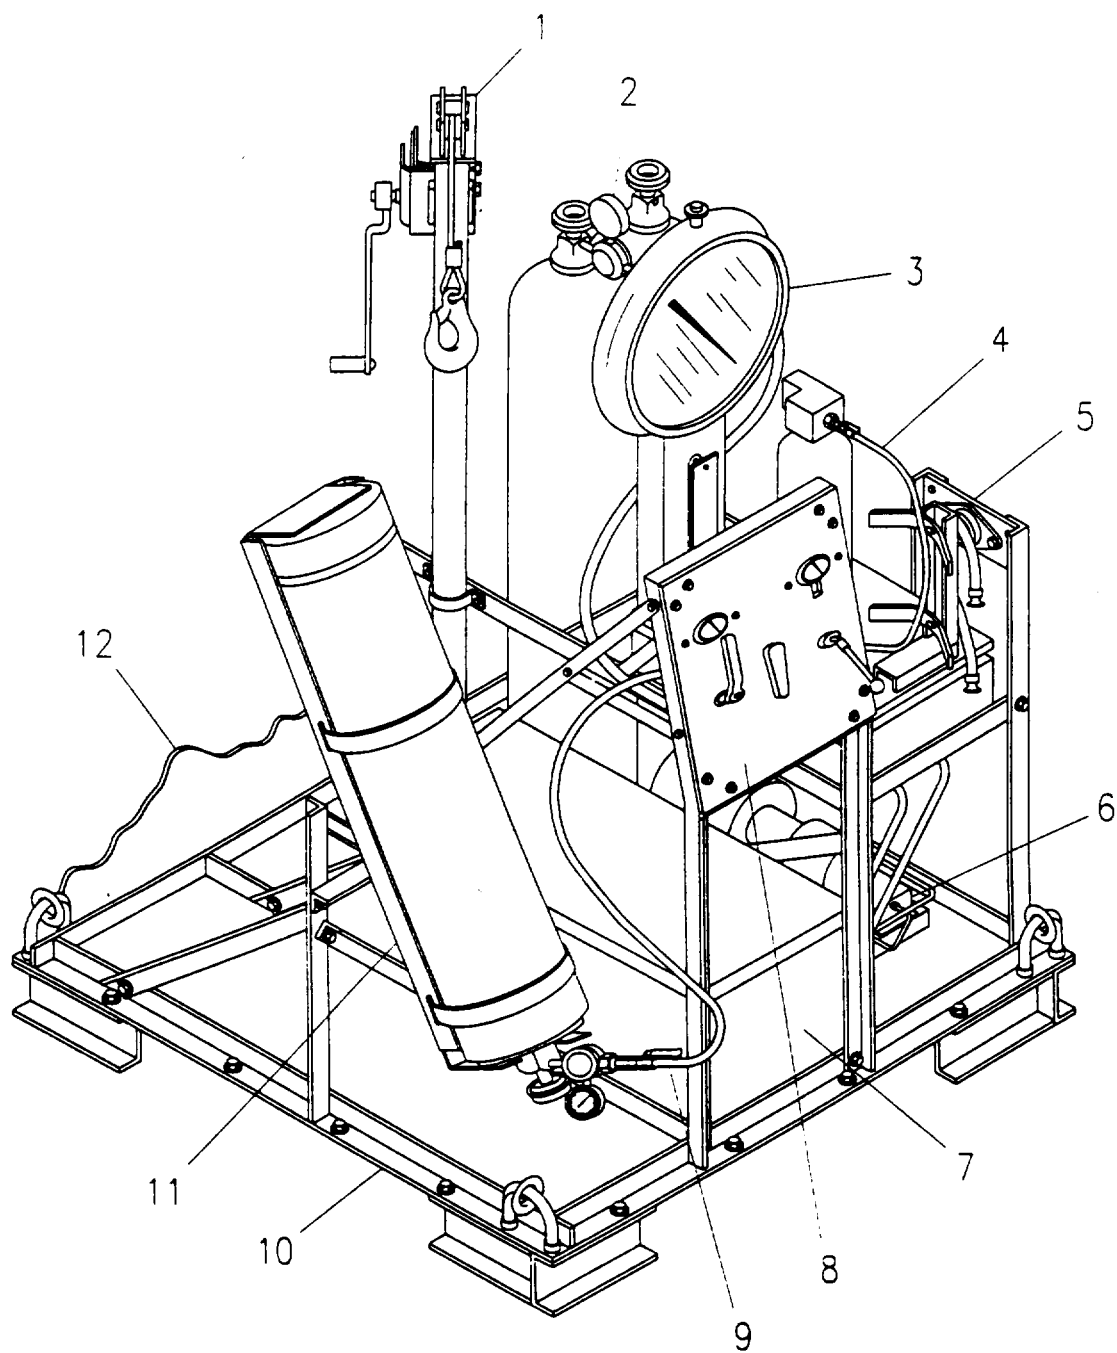

Figure 1-1. Recovery I Recharger Unit, Major Components
1-1.3 Purpose of Equipment. The Recovery / Recharger Unit (Figure 1-1) provides all necessary hardware to field recover residual Halon / nitrogen from 5 or 7 lb. (2.3 Kg or 3.2 Kg) capacity fire extinguishers and to recharge the same extinguisher when completely evacuated.
Major components of the recharger are illustrated in Figure 1-1 and described below. Reference numbers listed below are keyed to the appropriate assembly illustration in Figure 1-1.
The Halon cylinder is lifted and placed on the tilt rack assembly (11, figure 1-1) using the hoist winch assembly (1). The hoist winch assembly cable is attached to the D-rings of the cylinder lifting harness using the spring hook provided. The winch is then operated by turning a handle clockwise to lift the cylinder. The winch is provided with an automatic brake to hold the load and prevent the handle from freewheeling. The tilt rack assembly provides a balanced mounting surface for the Halon Cylinder to simplify inversion of the cylinder. The Halon cylinder is inverted so that Halon liquid, rather than vapor, is available for pumping to the fire extinguisher.
1-15.1 General. The Recovery / Recharger Unit as shown in Figure 1-1 may be used to remove Halon and nitrogen from an extinguisher cylinder by creating a minus psi reading at the cylinder valve and placing the extracted material in a recovery cylinder. Or it may be used to pump Halon into empty extinguisher cylinders by pumping Halon from a Halon cylinder and creating a positive pressure at the cylinder valve. All necessary valves, hoses, and gauges come as part of the Recovery / Recharger Unit. The Halon cylinder, nitrogen cylinder and the recovery cylinder are not part of the recharging unit. Detailed procedural steps are in Chapter 2.